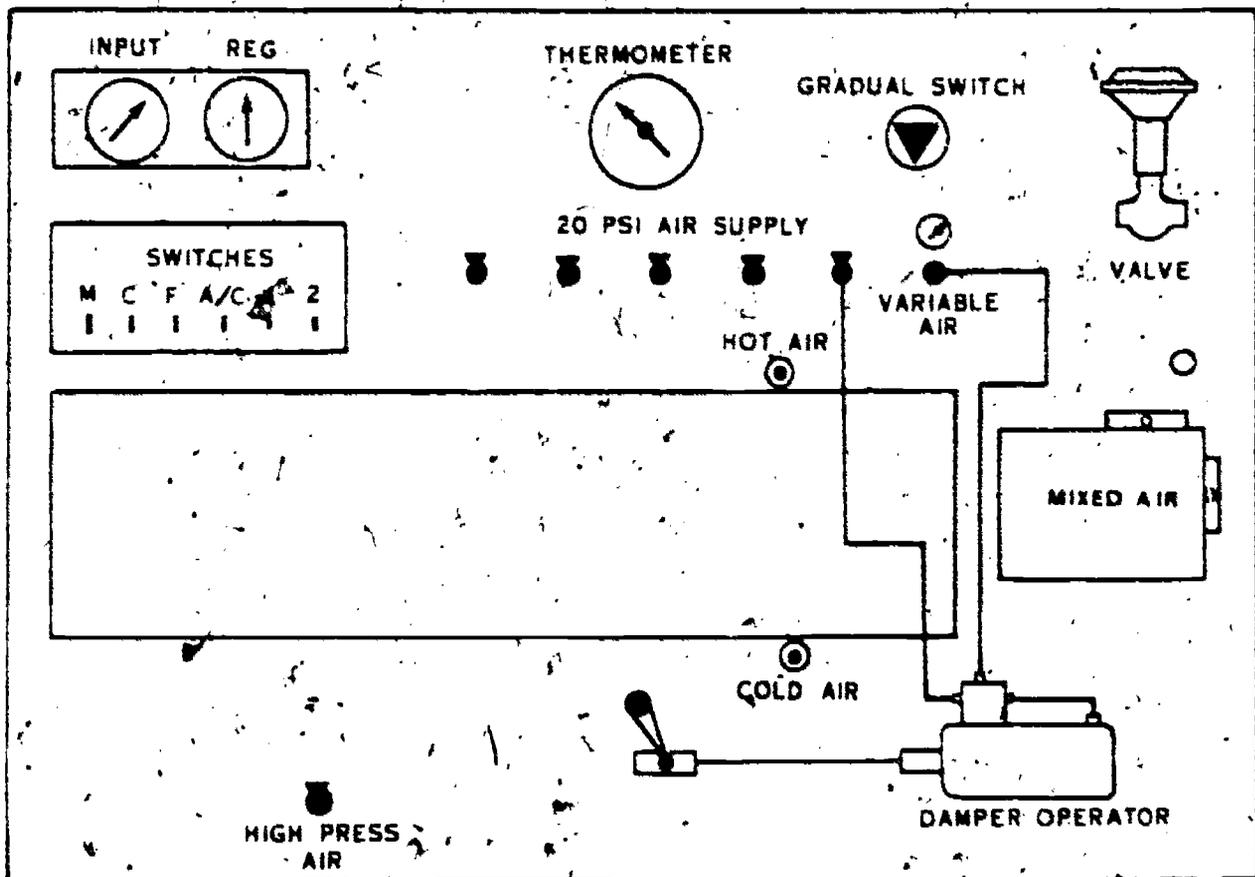

Figure 5.
3. Connect the positioner as shown in figure 5.